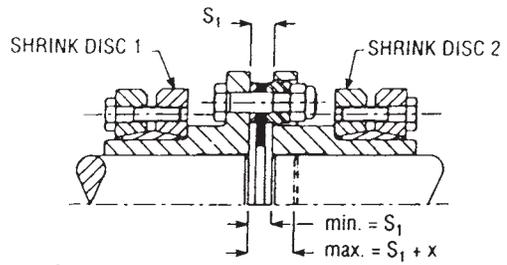

Fig. 23 Single Flexing
1. Bring equipment into the best visual alignment possible. Position the hubs axially so that the distance between shaft ends is within min. and max. dimensions  $S_1$  (Single Flexing) and  $S_3$  (Double Flexing) for standard couplings. See Figures 23, 24 and Table 4. For non-standard couplings, check corresponding coupling drawing.
Flexing), X, and Tolerance for standard couplings. See Figures 23, 24 and Table 4.